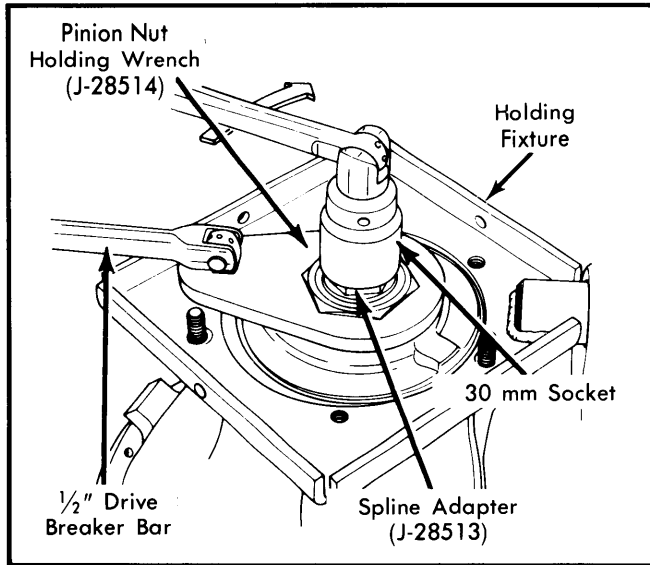

Fig. 6 Removing or Installing Pinion Nut
5) Check pinion bearing preload using spline adapter (J-28513) and $\frac{3}{8}$ " drive torque wrench. Record reading. To remove pinion nut, install nut holding wrench (J-28514) to hold nut while turning pinion CLOCKWISE with spline adapter (J-28513). Remove pinion by threading original nut partially onto pinion to protect threads and tap with hammer to free pinion. See Fig. 6.
2) Using spline adapter (J-28513) and holding wrench (J-28514), tighten pinion nut until end play begins to be taken up. (Turning spline adapter COUNTERCLOCKWISE tightens nut). See Fig. 6. When no further end play is felt, use spline adapter and 3/8" drive torque wrench to check preload. Continue tightening nut and checking preload until specified preload is obtained.